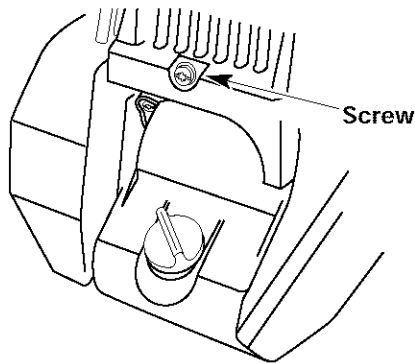

Fig. 43
- Remove the screw behind the engine cover (Fig. 43).